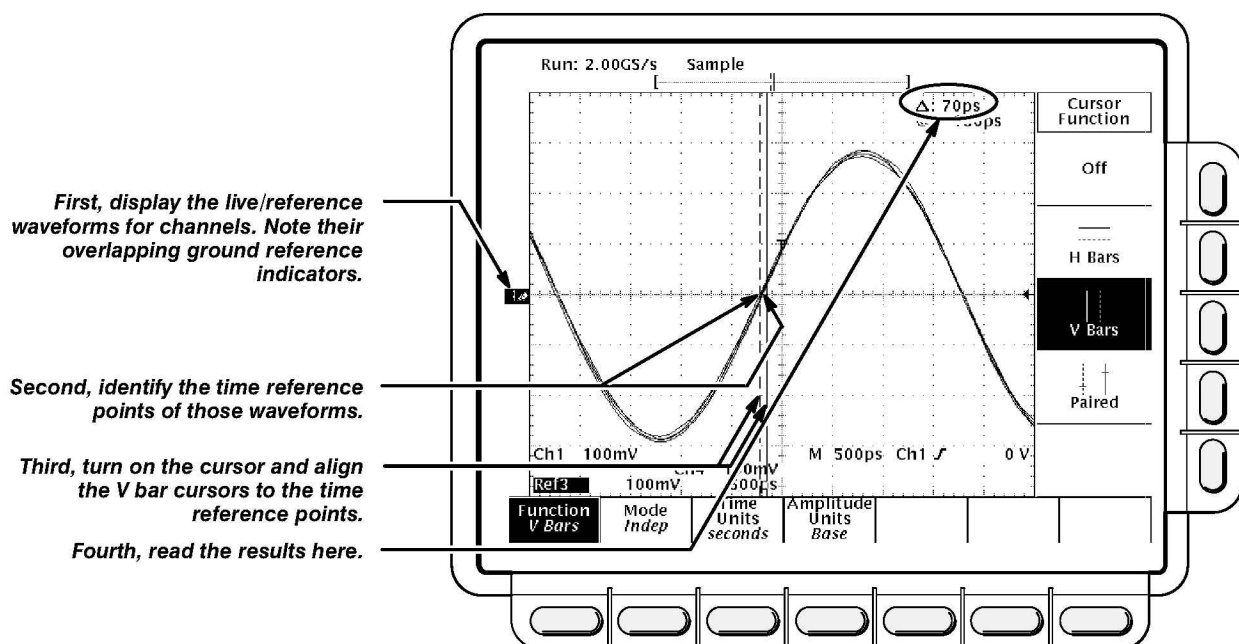

Figure 4-11: Measurement of Channel Delay
- Locate the point on the rising edge of the left-most waveform where it crosses the center horizontal graticule line. This is the *time reference point* for this waveform. Note the corresponding *time reference point* for the right-most waveform. See Figure 4-11.
- Rotate the General Purpose knob to align one cursor to the *time reference point* of the left-most waveform edge and the other cursor to the *time reference point* of the right-most waveform edge. (Press **SELECT** to switch between the two cursors.) See Figure 4-11.